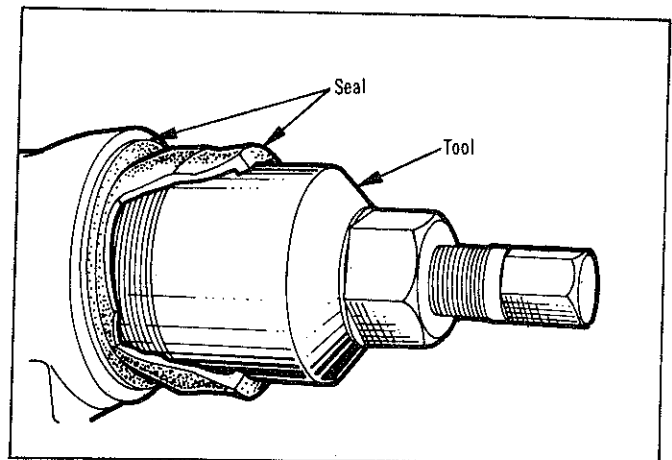

Fig. 22—Removing extension housing yoke seal
(1) Remove oil seal with Tool E3C10C (Fig. 22).